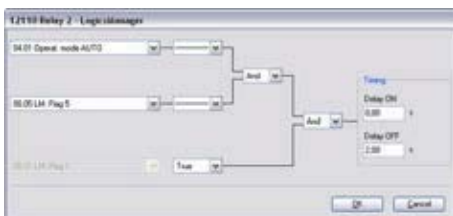

Fig. 165: LogicsManager function "Relay 2"
- ➔ Configure the LogicsManager function "Relay 2" as shown in (Fig. 165).